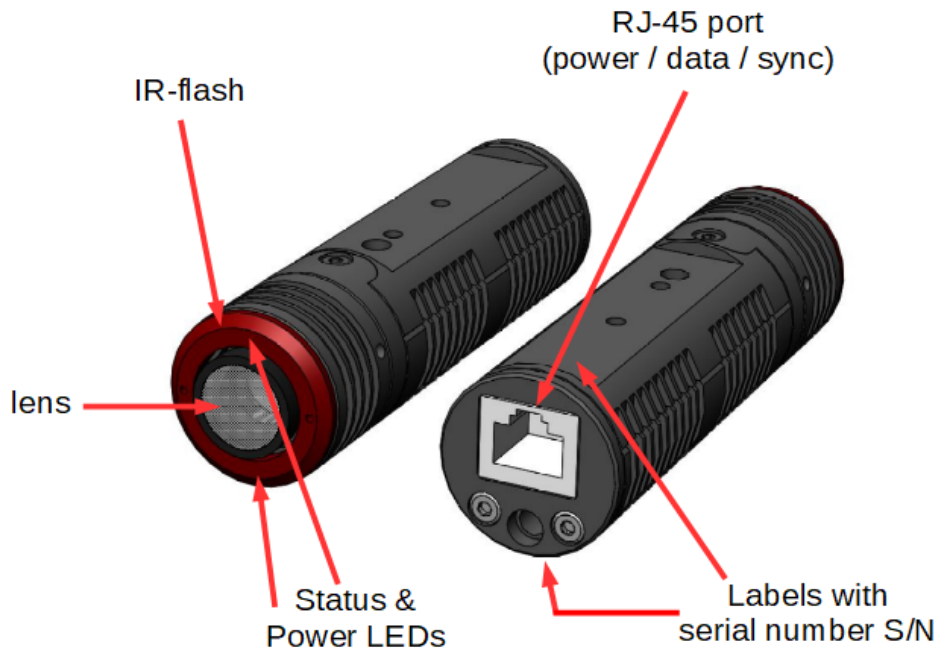

Figure 4.1: Camera *ARTTRACK6/M* - Description of LEDs and interface connectors
**Description** The *ARTTRACK6/M* infrared camera is intended for working environments with distances between camera and markers of up to 3.5 metres (see figure 4.1 on page 25). By default the *ARTTRACK6/M* is equipped with a 2.9 mm lens. Depending on the application and the setup the *ARTTRACK6/M* can be equipped with other lenses (i.e. with different focal lengths). Refer to A.1 on page 125 for a list of available focal lengths and the respective Field of View.